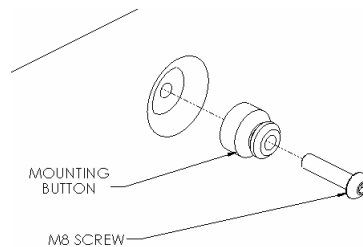
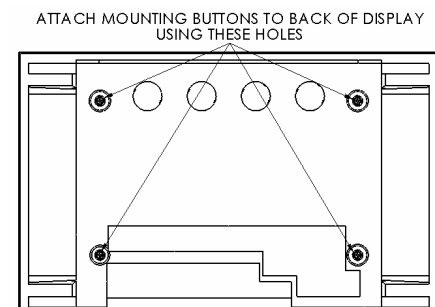

Figure 3
Figure 4
2. Attach mounting buttons to the display using the M8 screws provided (see Figure 3 & Figure 4). Use proper length of screws depending on thread depth of screen.